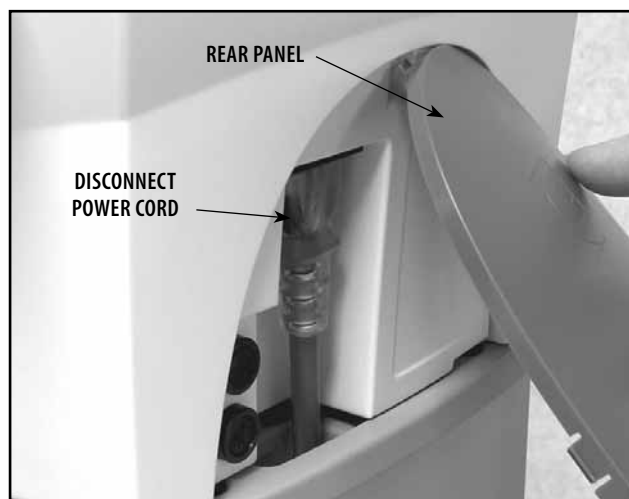

FIGURE 6.1
2. Remove the Rear Panel and disconnect the Power Cord from the System. See Figure 6.1.